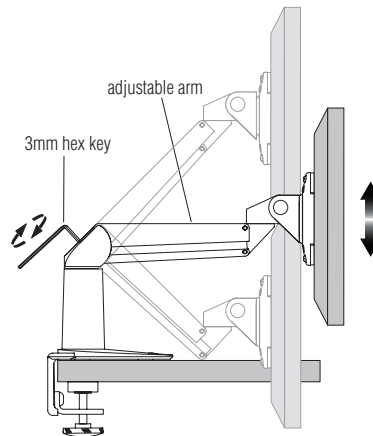

Figure 11
7. Monitor height tension can be adjusted by first orienting the adjustable arm to the horizontal position as illustrated. Use 3mm hex key to loosen or tighten tension on monitor height adjustment screw as illustrated (Figure 11). When tension is properly calibrated, monitor height can be adjusted up or down and monitor will stay in position.